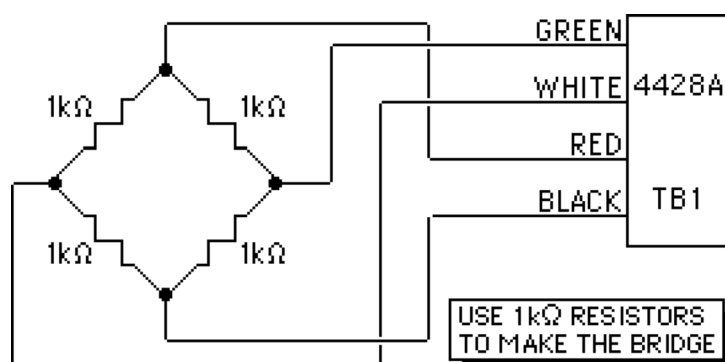

Figure 3-1. Balanced Bridge Simulation Circuit
- 2) Locate four precision 1k ohm, 1/4 W, 0.1% resistors, (ENDEVCO p/n 0329-1001, or equivalent) and connect them to the input terminal strip as shown in Figure 3-1. These resistors must be matched with each other to within 0.1%. The resistor leads are slipped into the terminal strip square openings and then secured by screwing the terminal lugs in until tight.